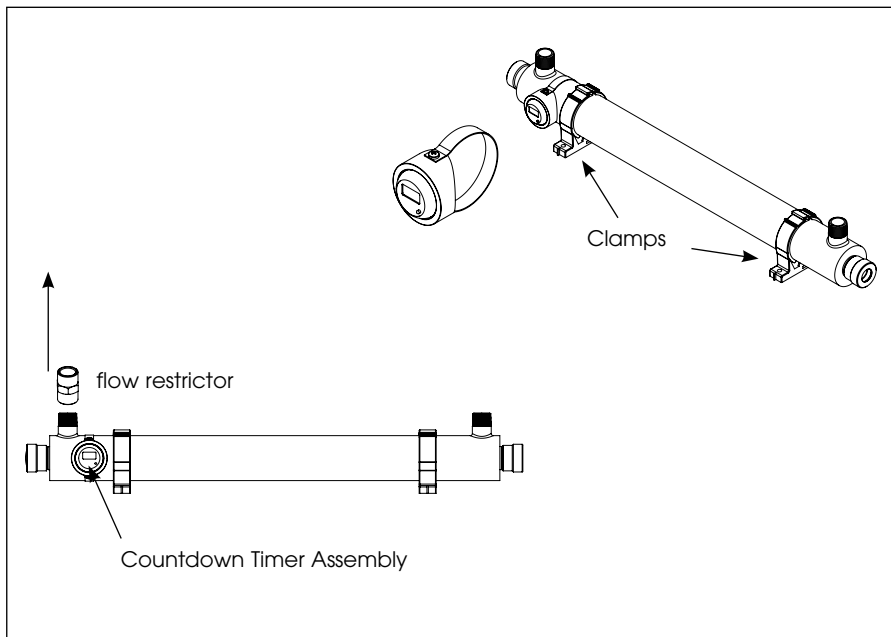

Figure 1C
3. Mount the system to the wall using the supplied clamps. Various connection methods can be used to connect the water source to the system, however union type connectors are recommended. The use of a flow restrictor device (included with the system) is strongly recommended when installing your system in order to maintain the manufacturers rated flow rate. The flow restrictor should be installed on the outlet port and is designed to be installed in one direction only. Ensure that the flow of the water matches the flow direction as indicated on the flow restrictor (Figure 1C). **DO NOT SOLDER CONNECTIONS WHILE ATTACHED TO THE SYSTEM AS THIS COULD DAMAGE THE O-RING SEALS.** Mount the countdown assembly to the UV chamber and tighten the metal clamp.